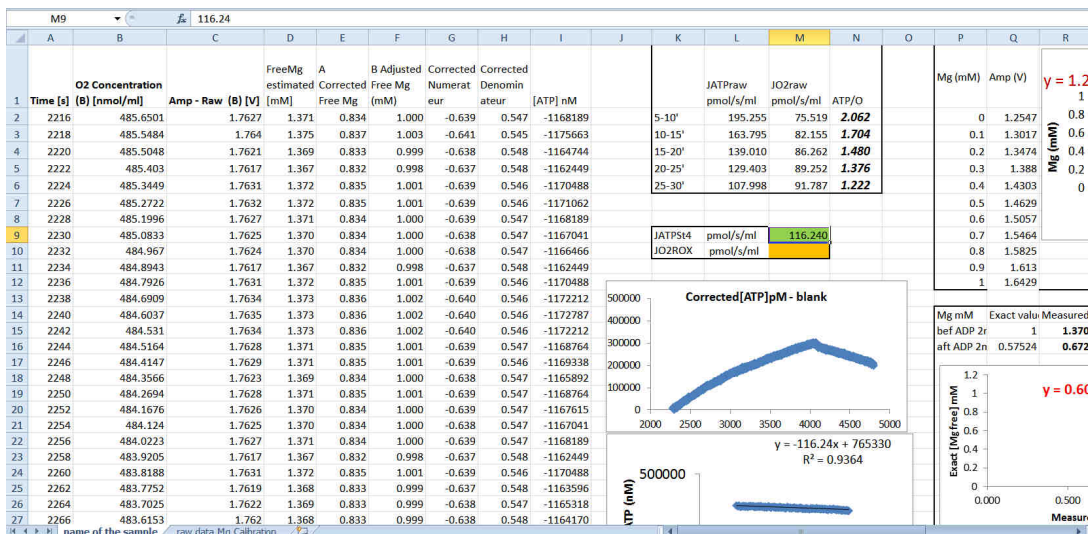

Figure 9.
- Enter the value of the slope in the cell M9 using the opposite symbol as the slope displays (Figure 9).